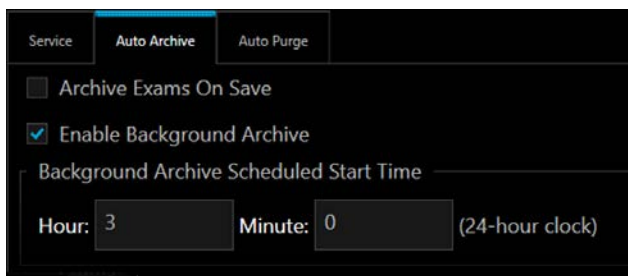

Figure 37 – Auto Archive Settings
- ① From home screen, select <Configure> button and then select <Archive/DICOM> tab.
- ② Set location of an archive by clicking the <Add> button, selecting “File System” from the drop-down menu, and then selecting <OK>. On next screen, type reference name of archive, location path relative to the VuMAX HD system (e.g. n:/clinic/imaging/ultrasound), and enter credentials if required to access specified location. The <Test> button can be selected to ensure the VuMAX HD has access to the specified archive location. Multiple archives may be set up, as desired.
- ③ Select <Configure Service> button and then select <Auto Archive> tab, *Figure 37*.
- ④ Ensure “Archive Exams on Save” option is *not* selected and that “Enable Background Archive” option is selected. Make changes, if required, and select <OK> (or <Cancel> if no changes are required).